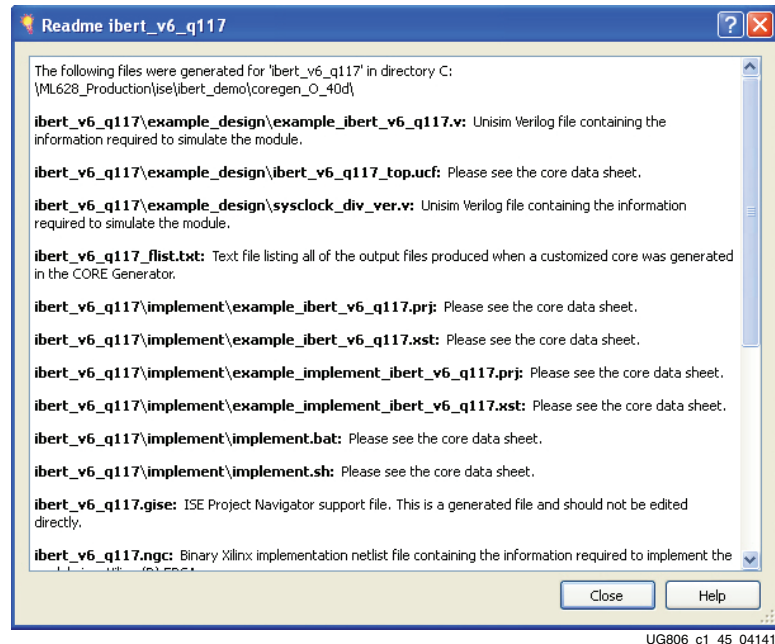

Figure 1-45: CORE Generator - Readme
14. The generation process will take a few minutes. When complete, a *Readme* window will appear (Figure 1-45). Review the information presented and locate the following files: